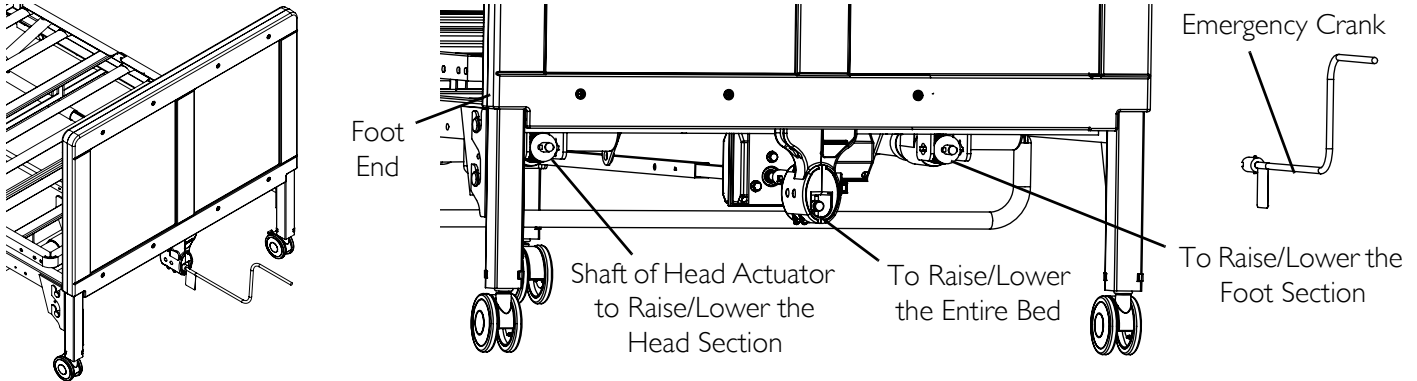

FIGURE 5 Using the Emergency Crank
3. Locate the exposed shaft end according to the function you want to perform. Refer to FIGURE 5.